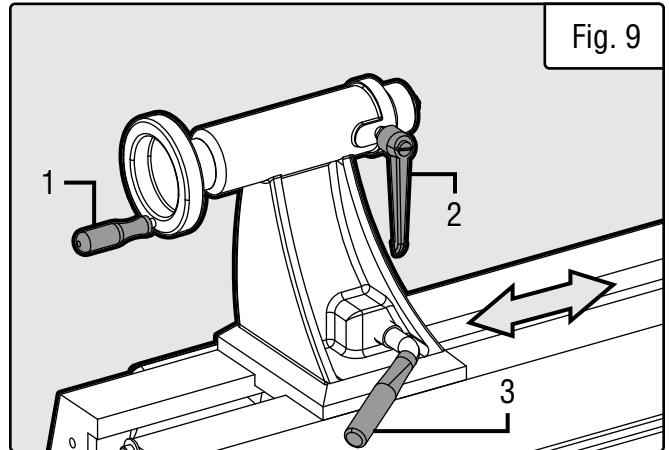

Fig. 9
1. Loosen the tailstock locking lever (Fig. 9 - 3) and slide the tailstock along the lathe bed into the desired position. Retighten the locking lever.
2. Loosen the quill locking handle (Fig. 9 - 2) just enough to unlock the tailstock quill. Turn the handwheel (Fig. 9 - 1) clockwise to advance the quill and counterclockwise to retract the quill. Retighten the quill locking handle.